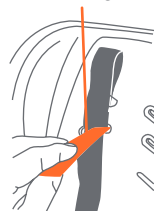

Fig. 31-1
6. Using the included Belt Threading Tool, insert the Harness Straps through the Slots selected in step 2 above, in the seat pad and the seat shell, respectively (Fig. 31-1).